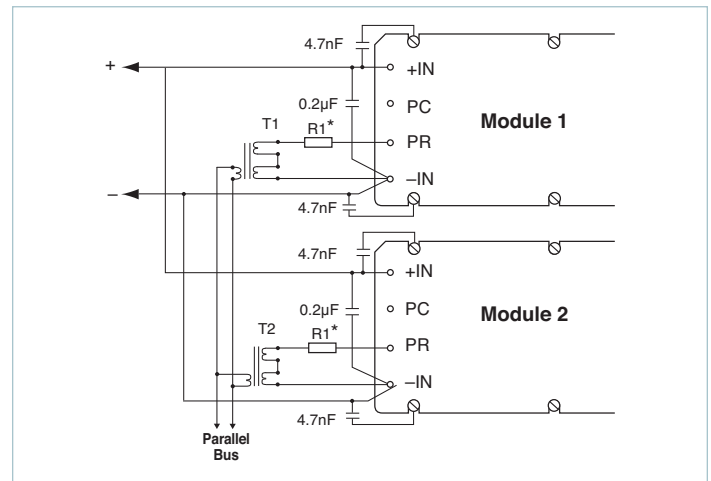

Figure 2.8 — Transformer-coupled interface
2. **Transformer-coupled interface:** Modules or arrays of modules may also be interfaced to share a load while providing galvanic isolation between PR pins via a transformer-coupled interface. For large arrays, buffering may be required. The power source for the buffer circuit may be derived from the PC pins. For arrays of four or more modules, the transformer-coupled interface is recommended. (Figure 2.8)
Figure 2.8, is required to prevent inter-module common-mode noise from interfering with the sync-pulse transmission. High-speed buffering may be required with large arrays or if the distance between modules is greater than a few inches. This is due to the fact that all modules, except the one that's talking, are in the listening mode. Each listener presents a load to the master (talker), which is approximately 500Ω shunted by 30pF capacitance. Long leads for the interconnection introduce losses and parasitic reactance on the bus, which can attenuate and distort the sync-pulse signal. The bandwidth of the bus must be at least 60MHz and the signal attenuation less than 2dB. In most cases, transformer coupling without buffering is adequate. Many applications may benefit from the addition of Z1, in series with the PR Pin of each converter. A low-Q 33Ω @ 100MHz ferrite bead or a 5 – 15Ω resistor may be used to improve the PR signal waveform. Although this is not a requirement, it can be very helpful during the debug stage of large converter arrays to help improve the PR pulse wave shape and reduce reflections. Again, careful attention must be given to layout considerations. When the outputs of two or more converters are connected in a parallel array to increase system power the converters should be "group enabled" to ensure that all the converters start at the same time. The PC pins of all converters in the array should be controlled by an external circuit which will enable the converters once the input voltage is within the normal operating range. Please consult with Applications Engineering at any Vicor Technical Support Center for additional information.